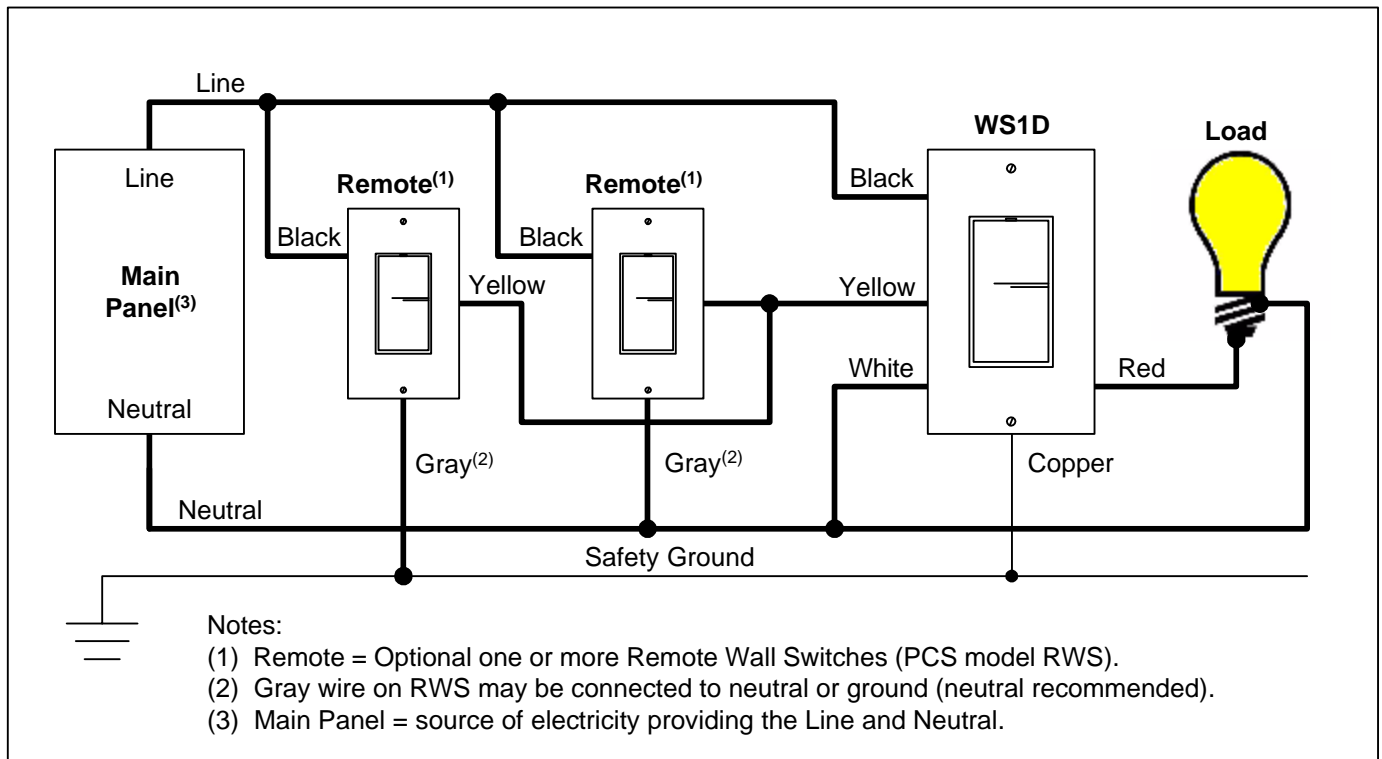

Figure 3: Wiring Diagram
4. Install the WS1D Wall Switch connecting wires per wiring configuration shown in Figure 3.
5. Optionally install any RWS Remote Wall Switch per wiring configuration shown in Figure 3.